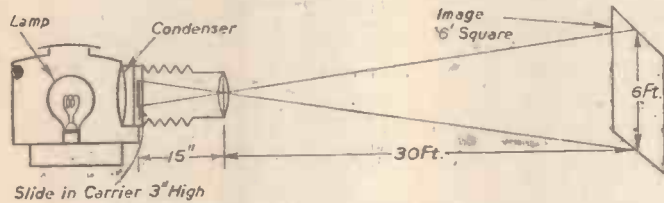

Fig. 8.—Characteristics of an optical lantern.
(2) I am buying an optical lantern to use in a hall 30ft. long. What must be the focal length of the projection lens if I want a picture on the screen about 6ft. square. The object is a slide with a picture size of 3in. square (Fig. 8).